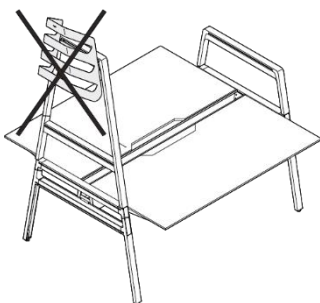

Figure 33 Skateboard holder, impermissible attachment
- Upper position of a high arch attachment (see Figure 33).